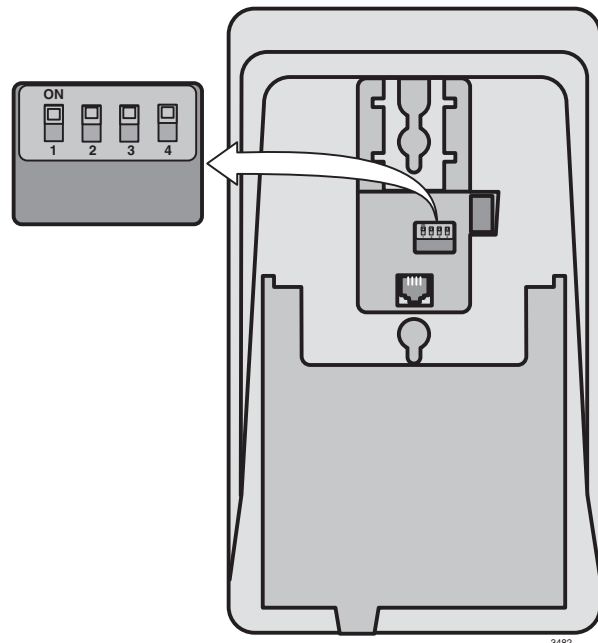

Figure 7-43 DKT2001 DIP Switch Settings
1. Set the DIP switches to match Figure 7-43. The DIP switches are preset from the factory for the USA and Canada. Refer to Table 7-11 on Page 7-43 for other country settings.